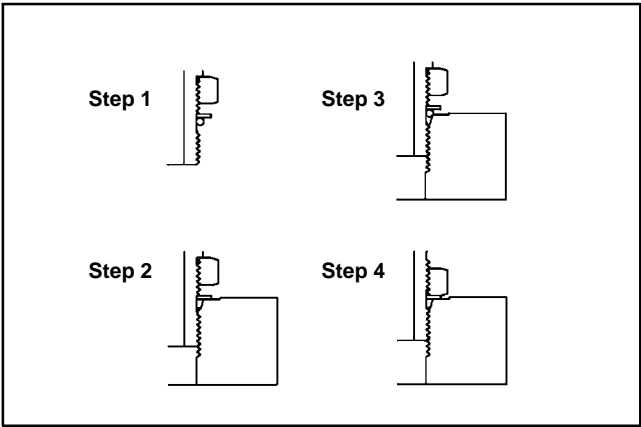

Figure 8
- 4. Turn back the lock nut as far as possible. Make sure the back up washer is not loose and is pushed up as far as possible (Step 1 in Figure 8).